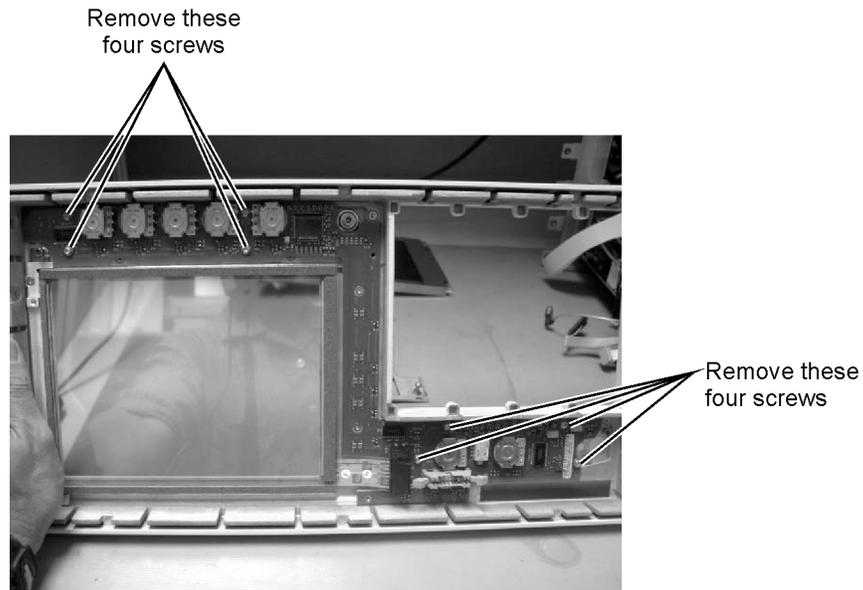

Figure 4-25. Removing the Keyboard Panel Screws
- 6 Remove the eight screws that secure the keyboard to the front panel, as shown in Figure 4-25.